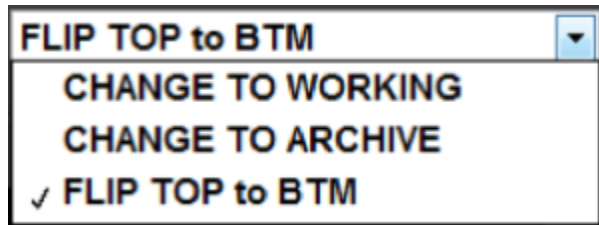

Figure 53- Close up of U-Turn Mode Selection Drop Down Menu
- Select a mode for correcting the data (**Figure 53**).